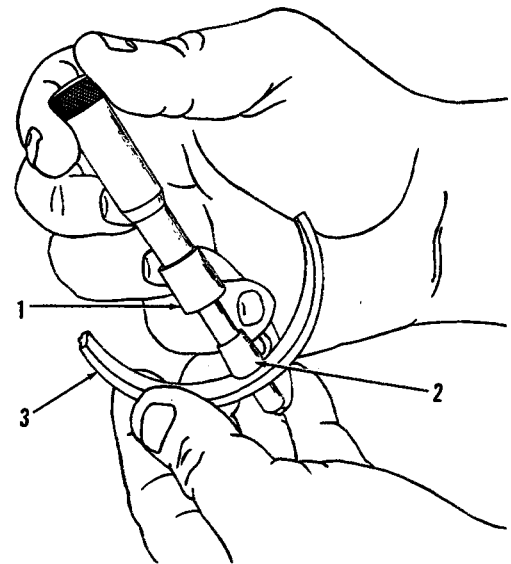

FIG. 6 MEASURING BEARING SHELL THICKNESS (T-19046)
- c. Another method for determining amount of wear on bearing shells is by measuring each shell with a micrometer at a point 90° from the parting line as shown in Fig. 6. New shells, measured as shown, are .0931"-.0936" (2.36-2.37mm) thick. Bearing shells less than .092" (2.33mm) thick